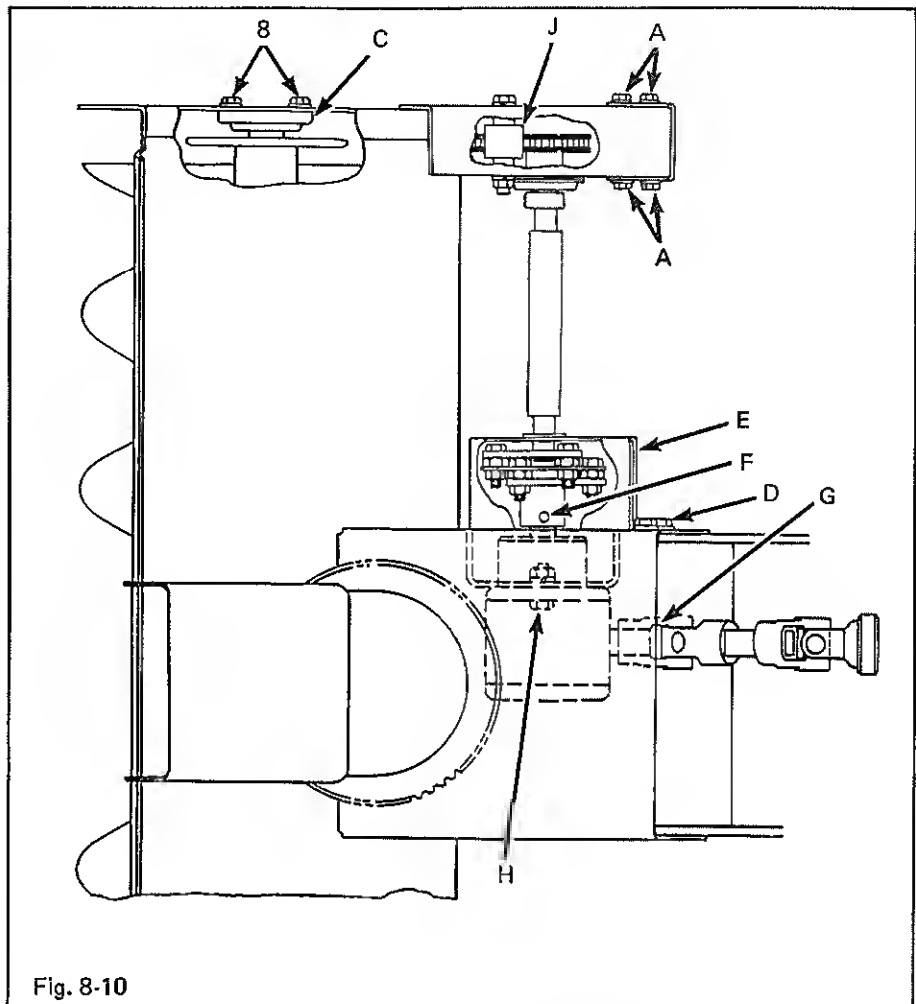

Fig. 8-10
1. Remove the (2) hex head screws (D), lock washers and hex nuts securing guard (E) Figure 8-10.
3. Loosen set screws (F).
4. Loosen set screws of universal joint (G) and remove universal.
5. Remove the (2) hex head screws, lock washers and hex nuts (H) securing gear box to housing.